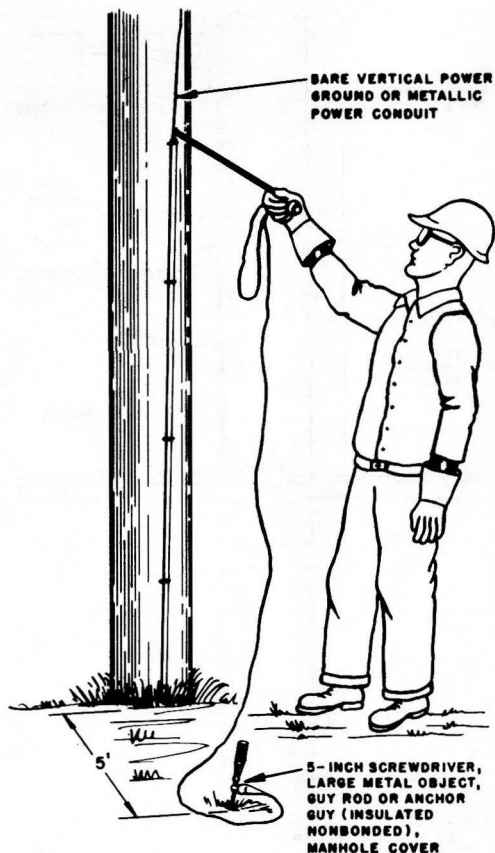

Fig. 10—Testing Vertical Power Ground
- (a) Attach the insulated clip of the B-Voltage Tester (Fig. 10) to one of the following:
- (1) A 5-inch screwdriver blade pushed into the earth about 5 feet from the pole.